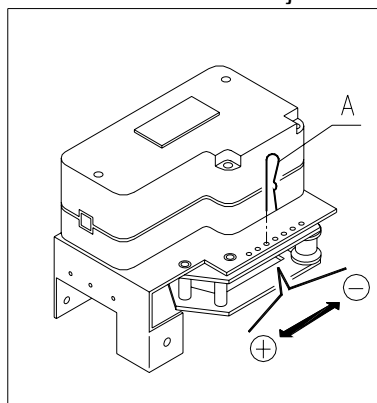

FIG. 15
- Remove the tension lock split pin from the relevant belt pos. A FIG. 15;
- Pull the tightening unit pos. B FIG. 15 downwards until it comes out completely;
- Remove the rear element pos. C FIG. 15 (if present, as it is an optional);